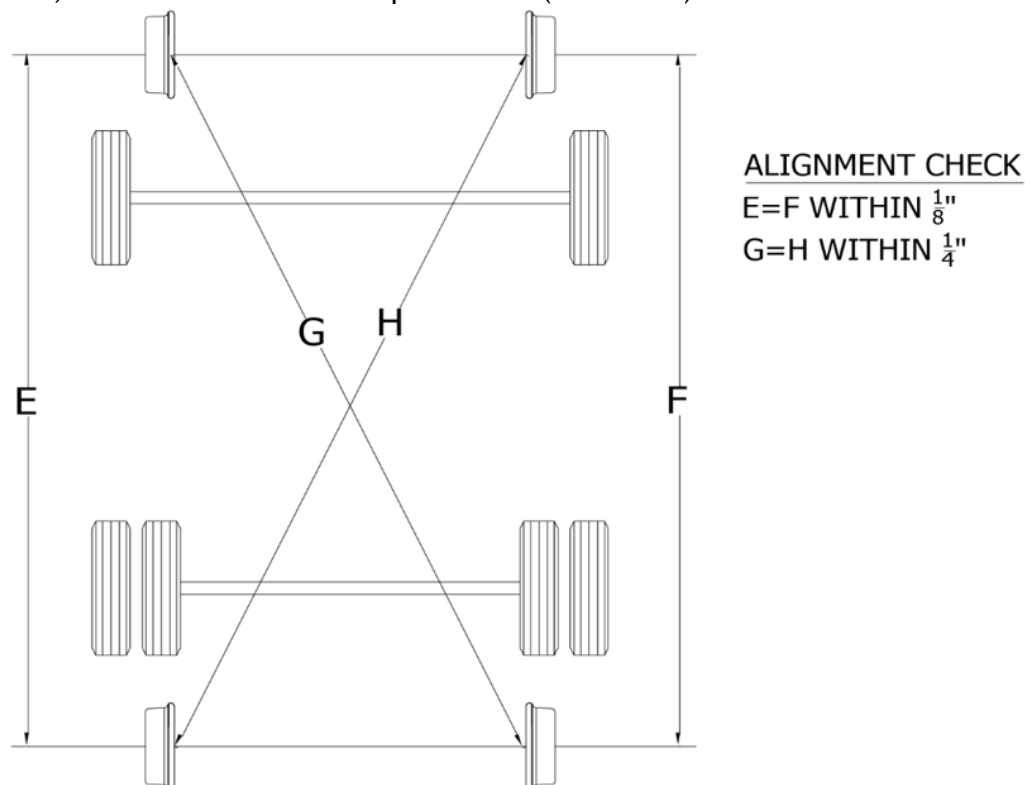

FIGURE 7-1
- (1) The distance from the Front Rail Wheel to the Rear Rail Wheel on each side in figure 7-1, distance “E” must equal to “F” (within $\frac{1}{8}$ ”).
- (2) The diagonals from the Front Rail Wheel to the Rear Rail Wheel on the opposite side.
In figure 7-1, distance “G” must be equal to “H” (within $\frac{1}{4}$ ”)